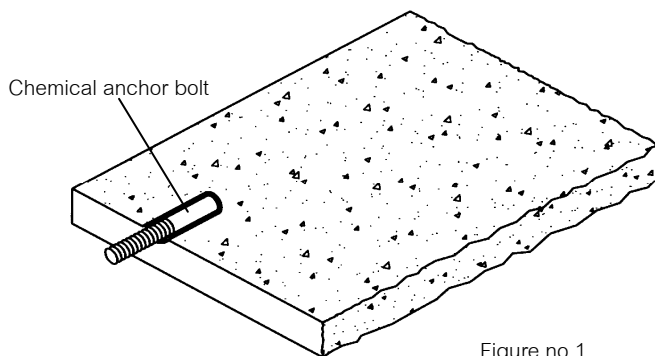

Figure no.1
1. The concrete wall have to be lever perpendicular with ground. Mark the drilling position. Drilling hold on the concrete wall and install the chemical anchor bolt. (Figure No.1)